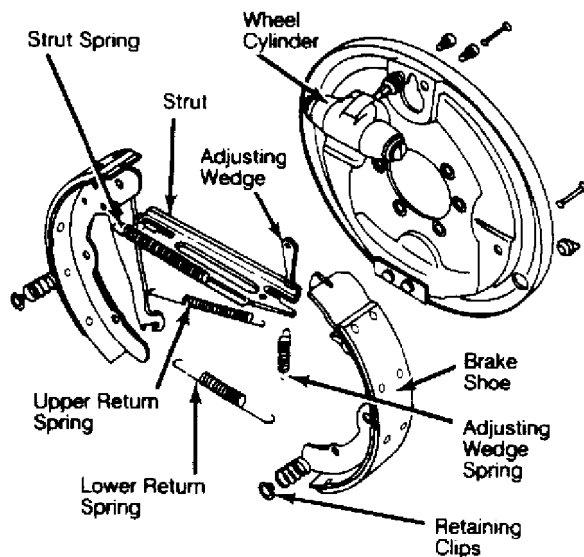

Fig. 6: Identifying Rear Brake Components (Except Vanagon)
1) Remove brake drum. See REAR BRAKE DRUM under REMOVAL & INSTALLATION. After removing drum, remove retainer clips, hold-down springs and anchor pins. Remove lower return spring. Disconnect parking brake cable from lever. See Fig. 6.